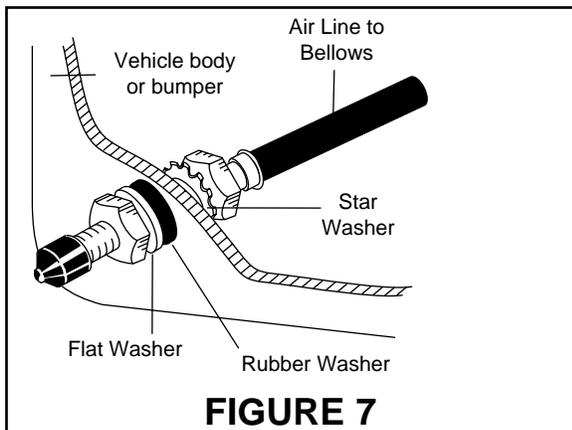

FIGURE 7
9. Installation of this kit requires exhaust heat shield (Figure 7). The shield is attached with the stainless steel clamps to the exhaust pipe, with the flanges being bent inward. Shield may be trimmed or bent to attain component clearance. Bend tabs to provide 1/2" dead air space between exhaust pipes and heat shield and maximum clearance with bellows. Tailpipe should be loosened and rotated to provide maximum clearance.
H. Drill two 5/16" holes, and install inflation valves and washers (Figure 7). Then inflate the bellows and check the fittings for air leaks with a solution of soap and water.